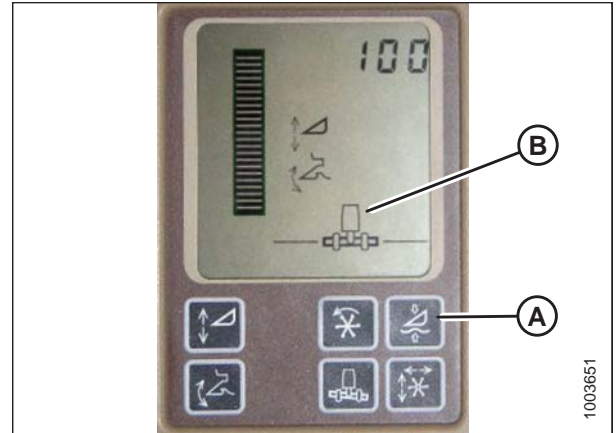

Figure 3.321: John Deere Combine Display
Do **NOT** use the active header float function (A) in combination with the MacDon auto header height control (AHHC)—the two systems will counteract one another. The header symbol (B) on the display should **NOT** have a wavy line under it and should appear exactly as shown on the Active Header Control Display in Figure 3.321, page 203.